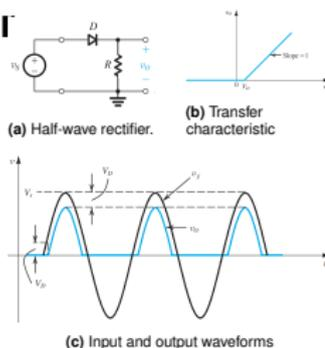

FIG 2. Characteristics of a half-wave rectifier
- If we use the constant voltage drop diode model in Fig. 2: